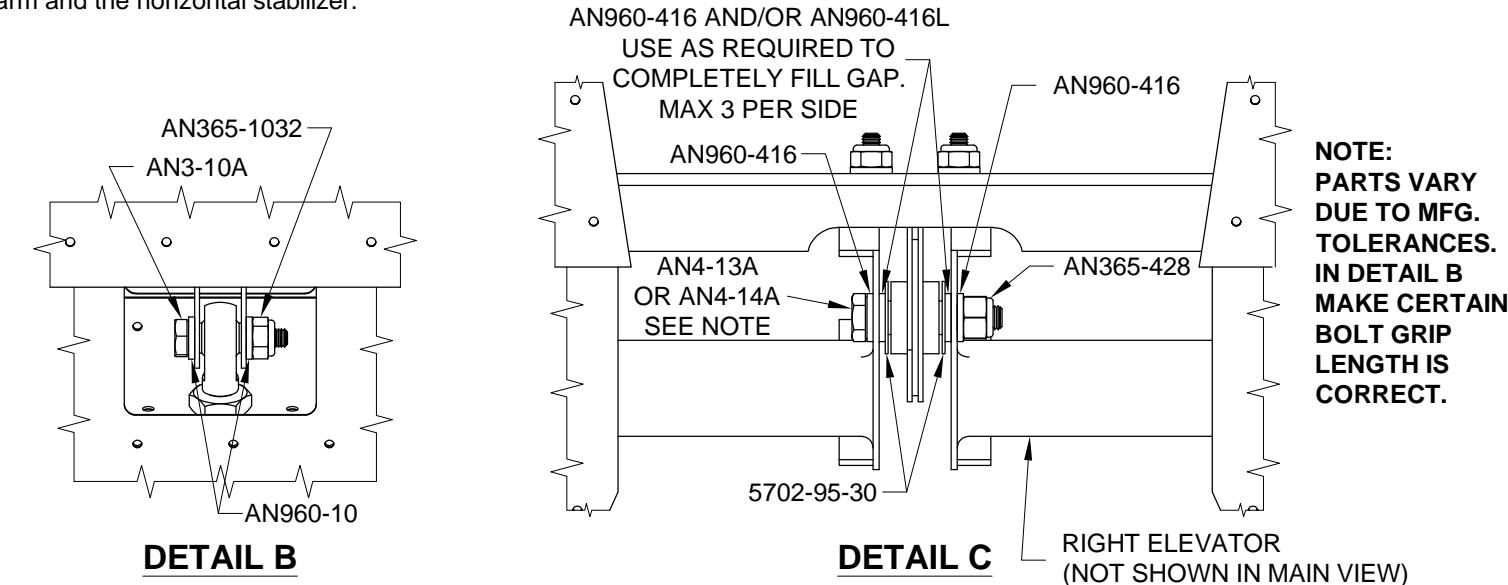

FIGURE 3: ELEVATOR INSTALLATION
Step 3: Temporarily install the left elevator to the horizontal stabilizer as shown in Figure 3. Elevator attach hardware is shown in Figure 3, Detail B. Not completely filling the gap between the elevator horn and the **VA-146** with washers and then tightening the bolt to remove the gap will cause slight binding in the rod end bearings.